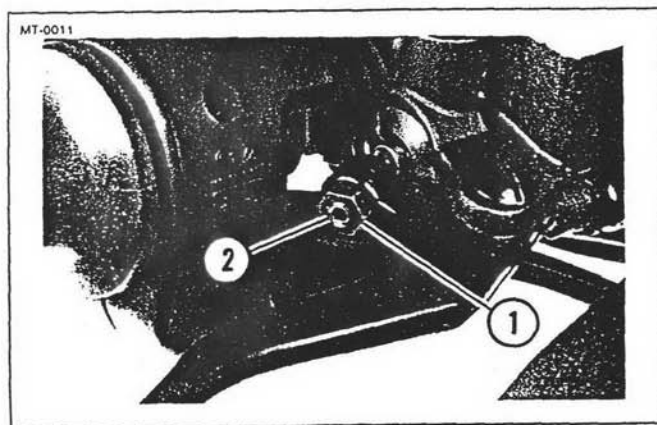

Figure 5-32. Front Brake Control Lever Free Play Adjustment
1. See Figure 5-32. Using a 10 mm box wrench, loosen jam nut (1).
2. Using a 4 mm hex key, turn adjusting screw (2) until free play at knob end of lever is 11-13 mm (0.43 - 0.51 in.).
3. Hold adjusting screw (2) stationary and tighten lock nut (1) with 10 mm box wrench.